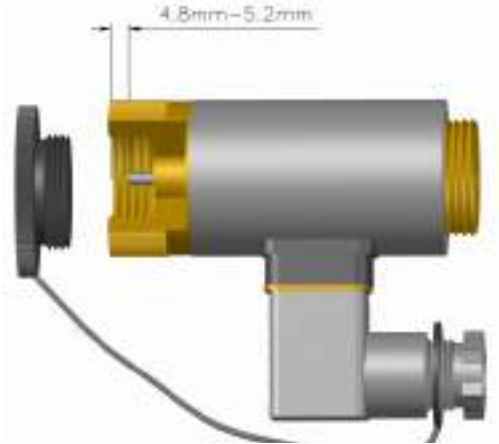

Figure 41 Electrical Actuator Non-Fire Position
- Carefully screw the electrical actuator onto the cylinder valve. **Prior to fitting, ensure the unit is reset in the non-fire position (Pin is retracted). (Normally height from end of pin to base is 4.8 to 5.2mm) (See Figure 41)**